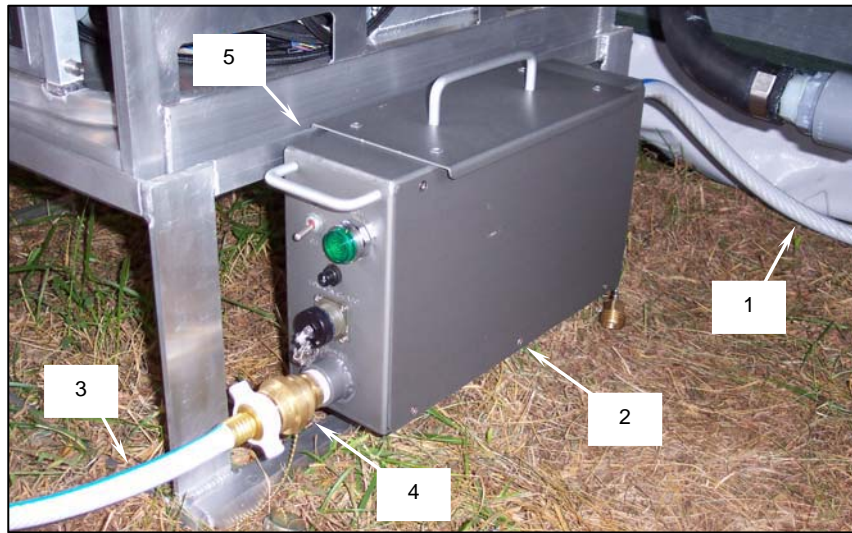

Figure 3. Removing the Sink Fill Pump Assembly.
- b. Disconnect the 50-ft water supply hose (**Figure 3, item 1**) from the potable water supply.
- c. Disconnect the 50-ft water supply hose (**Figure 3, Item 1**) from the back of the sink fill pump assembly (**Figure 3, Item 2**) and drain the hose toward the source end.
- d. Disconnect the 15-ft sink fill hose (**Figure 3, Item 3**) from the vacuum breaker (**Figure 3, Item 4**) at the front of the fill pump assembly and secure the cap to the vacuum breaker.
- e. Lift the sink fill pump assembly (**Figure 3, Item 2**) off the sink assembly base rack (**Figure 3, Item 5**).